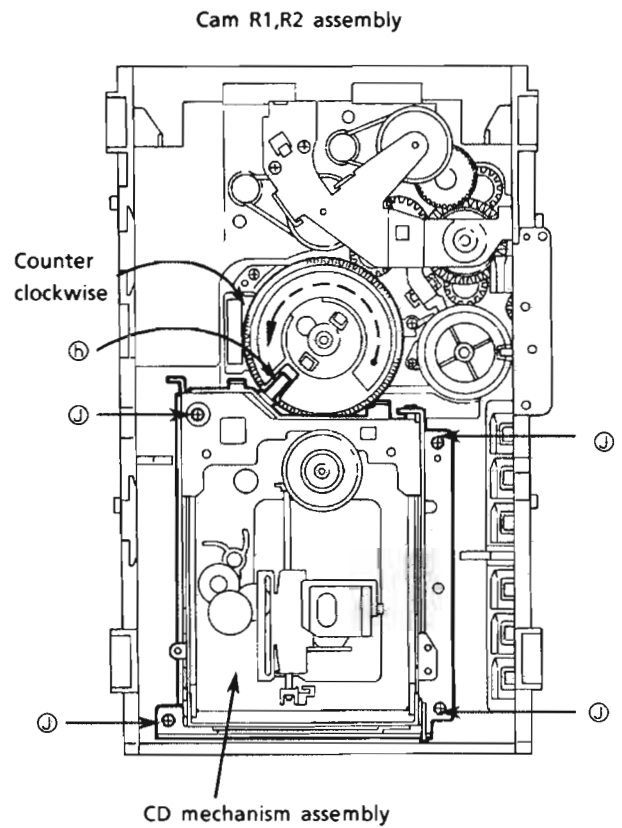

Fig. 36
2. Rotate the Cam R1, R2 ass'y counterclockwise so that CD mech. ass'y's shaft (b) is positioned as shown in Fig. 36.
3. Remove 4 screws (j) securing CD mech. ass'y. (See Fig. 36.)